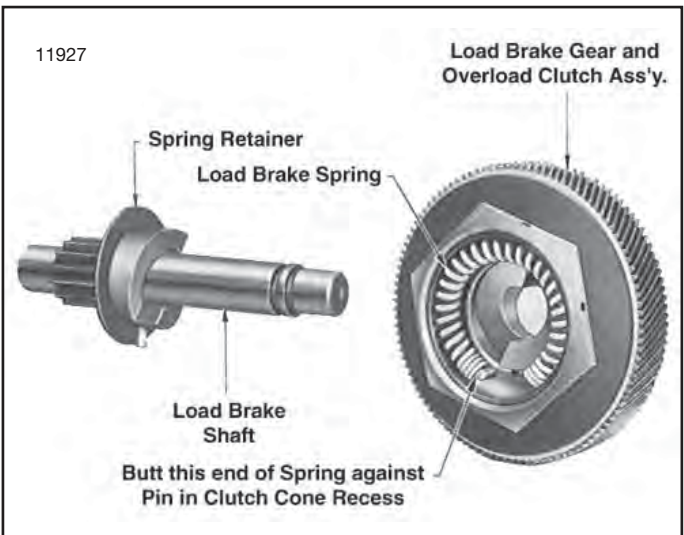

Figure 7-24. Load Brake Gear and Overload Clutch Assembly Removed from Load Brake Shaft Showing Brake Spring Installed in Clutch Cone
(3) Remove load brake gear and overload clutch assembly from output pinion shaft. Pull the spring from its recess in clutch cone (fig. 7-24) but do not further disassemble gear and clutch assembly. See "NOTE" below.
NOTE: Disassembly of the load brake gear and overload clutch assembly (fig. 7-24) is not recommended. Clutch pressure is preset by the factory at assembly to provide the correct torque to allow the clutch to refuse loads within a specified range (150% of rated load to 200% rated load). It is suggested whenever there is a need to repair or readjust the gear and clutch assembly that it be sent to an authorized **Yale** Hoist Repair Station where adequate tools, fixtures and appropriate test equipment is available.
(1) Before assembly, all parts should be cleaned and inspected to determine their serviceability. Replace parts that are worn or damaged.
(2) Reassemble load brake parts following a reverse procedure of the disassembly steps listed above, observing the assembly steps (3) through (6) below.
(3) Before installing spring in its recess in center of clutch cone (fig. 7-24) apply a good grade of ball bearing grease to inside of recess. Spring must be positioned exactly as illustrated, abutted against pin.